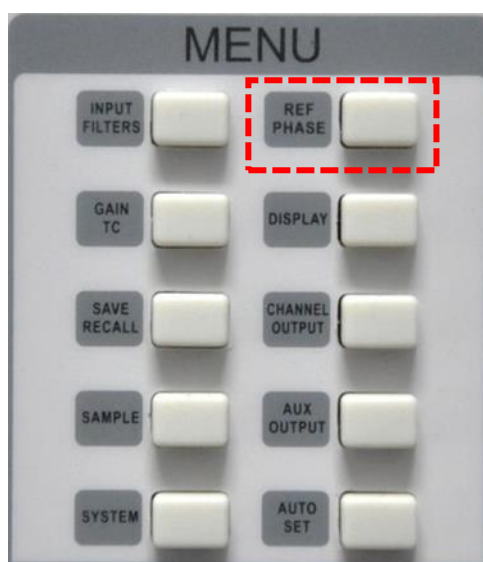

Fig.98 [REF PHASE] Submenu
4. Press [REF PHASE] in front panel and set <Harmonic> to the required order, as is shown in Fig.98.